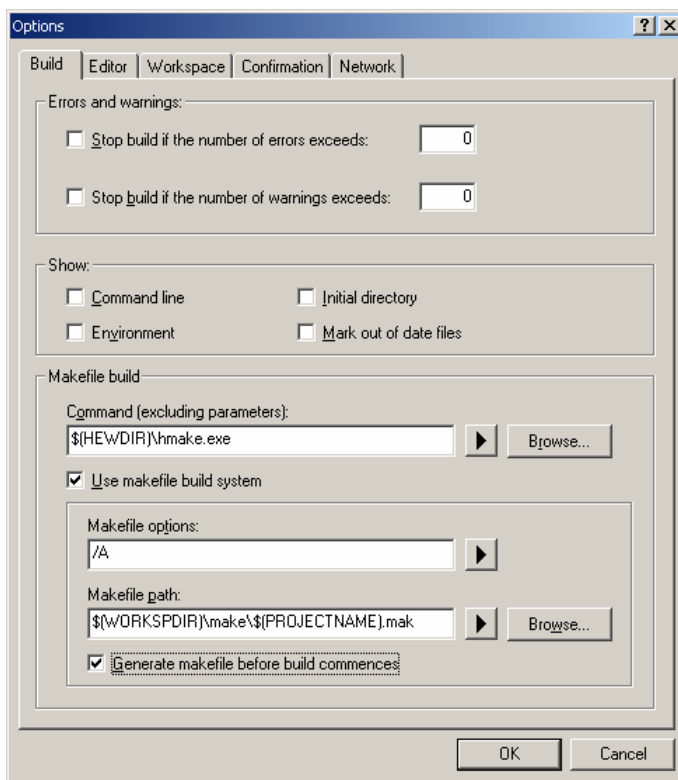

Figure 3.24: Option Dialog Build tab
3. Click the build tab (figure 3.24).